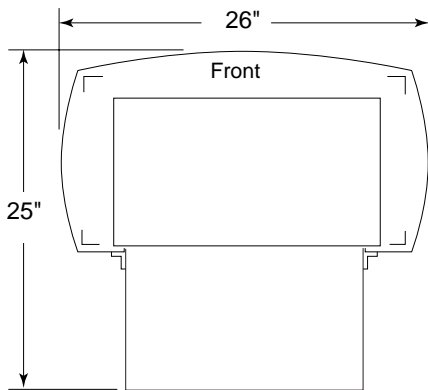

Figure 5 - Freestanding Fireplace Bottom Dimensions
4. This stove is a freestanding unit designed to set directly on the floor. If your fireplace is to be installed directly on carpeting, vinyl tile, or any combustible material other than wood, it must be installed on a metal or wood panel extending the full width and depth of the fireplace. See Figure 5, page 5.